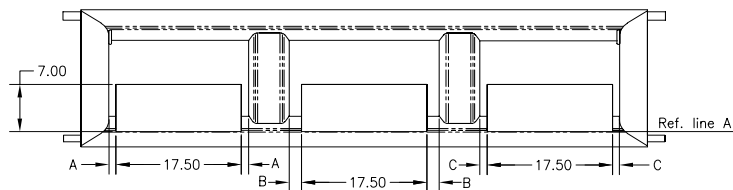

Figure 3
- 1) Before removing the tailgate from the dump body, mark the height of the floor on the back side of the tailgate (Ref. line A in Fig.3)
- 5) Double check the cutout marks before beginning to cut. The cutout must be 7.00" x 17.50" in size and 0.25" above the dump body floor. Also the cutout should be centered between stakes. (See Fig. 3)